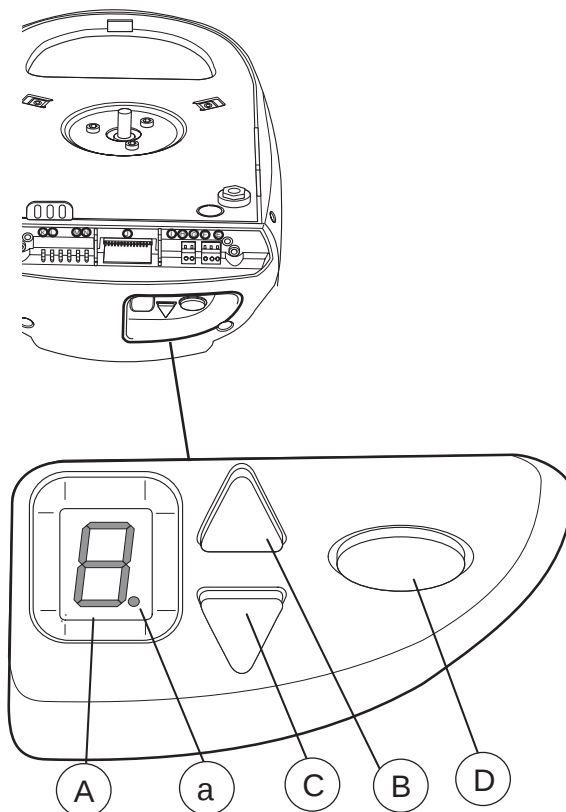

Figure 9 Control elements
- A Numerical display shows the menu stage as well as the selected value (**Figure 9**).